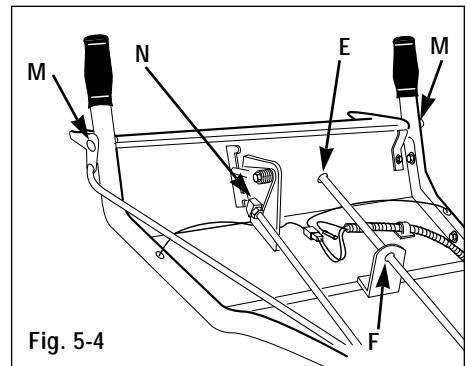
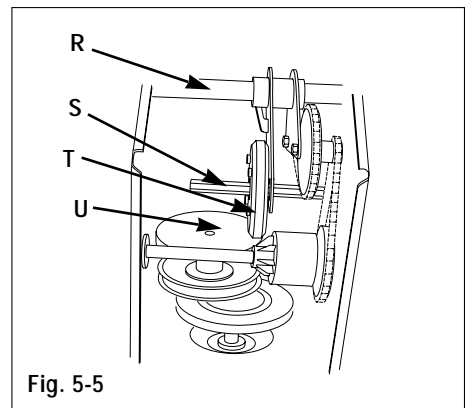
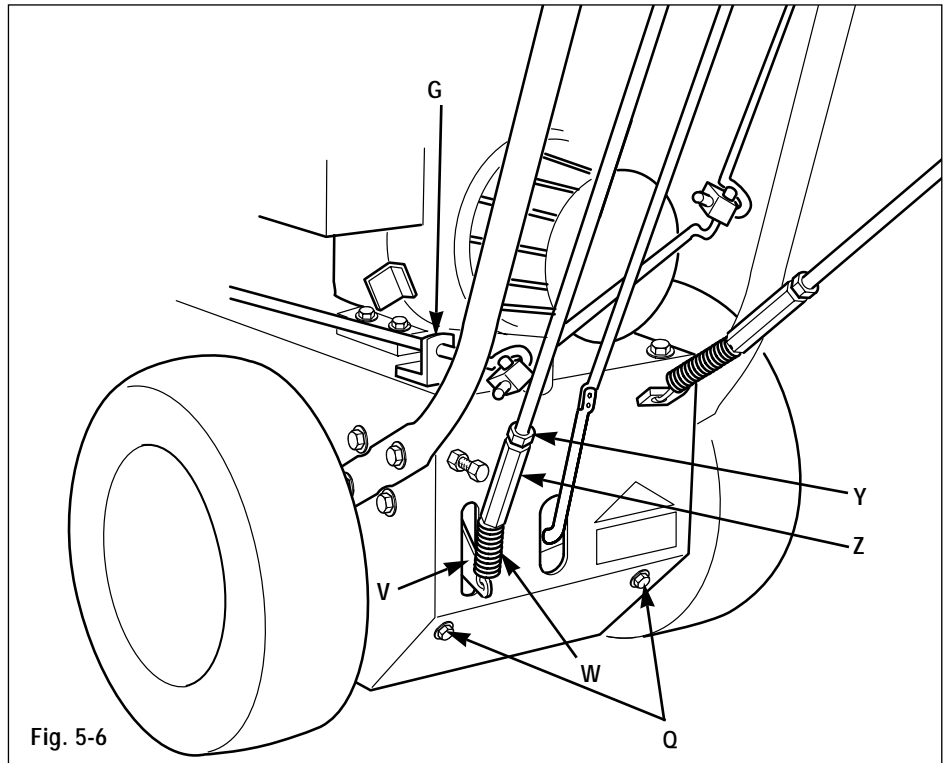

Fig. 5-4
Fig. 5-5
Fig. 5-6
2. Lightly oil the discharge chute control rod pivot points where the control rod enters the control panel bearing (E, Fig. 5-4), the support tab (F, Fig. 5-4), and the support on the left rear of unit housing (G, Fig. 5-6).
6. Lightly lubricate the handlebar control levers at pivot points (M, Fig. 5-4) with oil or a non-silicone spray. Do not get oil or lubricating spray on levers.
7. Lightly oil the pivot points on the gear shift control lever (N, Fig. 5-4).
10. Remove bolts (Q, Fig. 5-6) securing bottom cover to unit. Remove bottom cover. Put gear shift lever in highest speed setting and apply a coating of multi-purpose grease to the shafts (R and S, Fig. 5-5). Prevent grease from contacting rubber drive wheel (T) or drive disk (U). If grease should contact these parts, wipe clean to avoid slippage and assure proper operation. Move shift lever between high speed and reverse settings to spread grease along shafts. Replace bottom cover.
1. Pull the wheel drive control arm (V, Fig. 5-6) down completely.
2. Measure and note the distance between the coiled ends of the spring (W, Fig. 5-6).
length of spring (W, Fig. 5-6) again. The spring length should now measure 5/8" – 3/4" (15–19mm) longer than the measurement taken in step 2. If it does not, loosen jam nut (Y, Fig. 5-6) and turn adjuster (Z, Fig. 5-6) to increase or decrease the spring length. (1-1/4 turns of the adjuster equals 1/16" [1.5mm] of spring extension.) Hold the adjuster and tighten the jam nut (Y) when the correct spring length is obtained. Re-check measurements and adjust if needed.